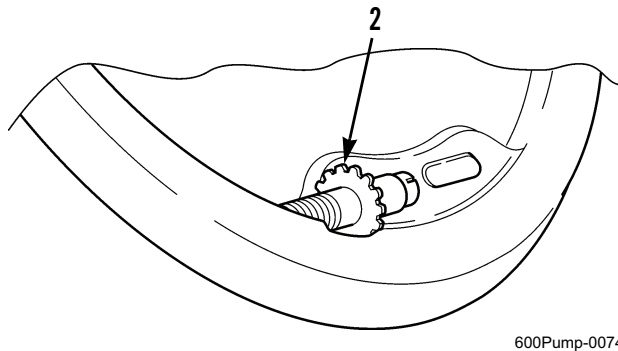

Figure 2. Starwheel.
6. Rotate starwheel (Figure 2, Item 2) downward until brakes drag.